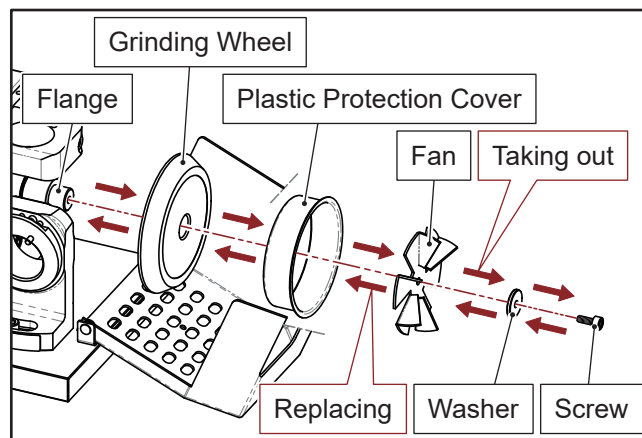

Fig. 13-3
- ④ Loosen the screw from the grinding wheel to take off the grinding wheel. (Fig. 13-3)
- ⑤ Use clean cloth to clean the flange and the contact surface of the grinding wheel.
- ⑥ Replace the new grinding wheel and fasten the screw. (Fig. 13-3)
- ⑦ Close the grinding wheel cover and secure with screw.